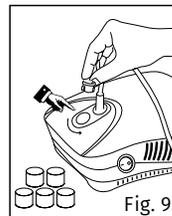

Fig. 9
1. Remove the filter cap from the unit (Figure 9).